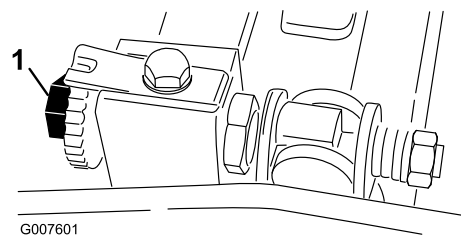

Figure 44
2. Ensure that the reel contact is removed by turning the bedbar adjusting screws counterclockwise (Figure 44).
parallel to the bedknife, which results in a slight drag when paper is pulled (Figure 44)